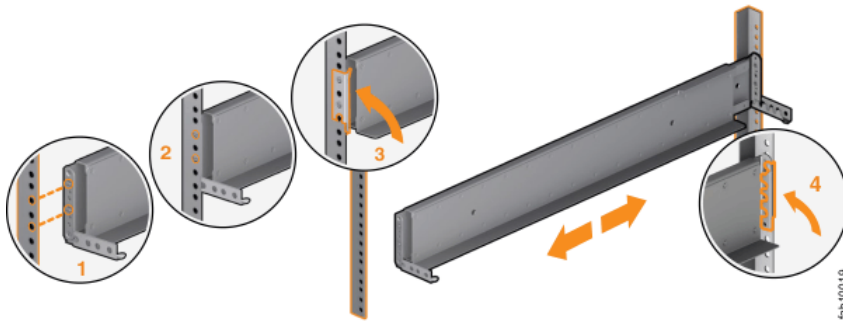

Figure 36. Closing the hinge brackets
9. Close the rear hinge bracket to secure the rail to the rack cabinet flange. (See Figure 36 on page 67.)
See Figure 36 on page 67.